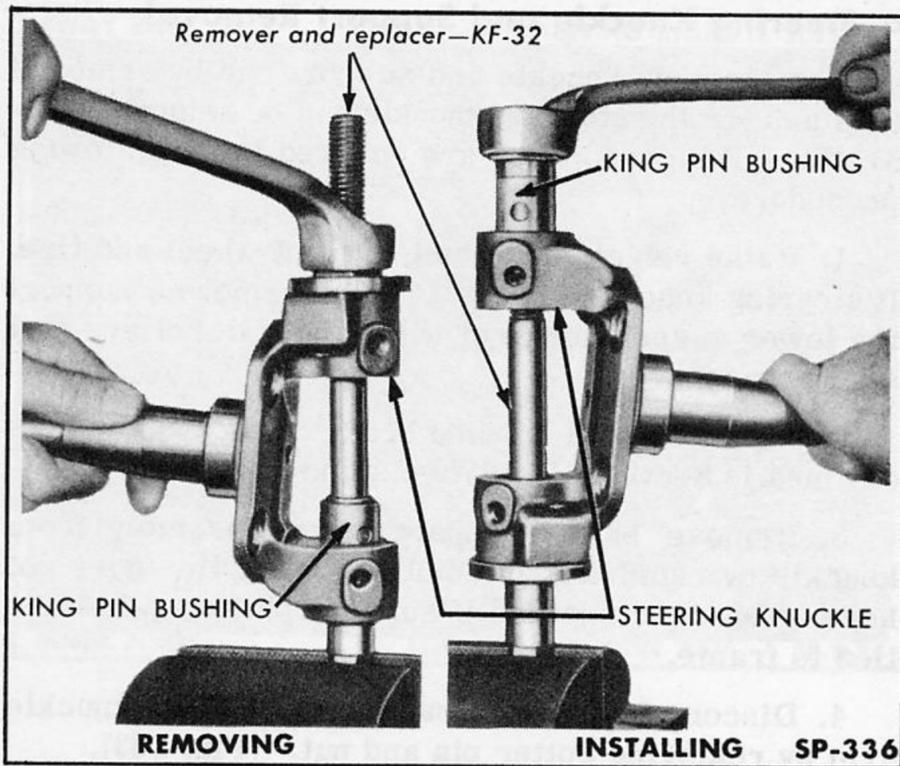

Fig. 164—Removing and Installing Steering Knuckle Bushings
1. Remove pressed-in type bushings from steering knuckle by pressing out with King Pin Bushing Remover and Installer KF-32 (Fig. 164). Be careful not to spring knuckle when removing bushings.